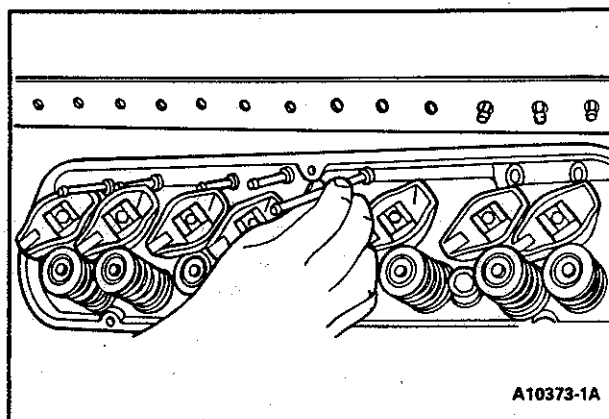

Figure 52 Removing Valve Push Rods
4. Loosen the rocker arm bolts or nuts so that the rocker arms can be rotated to the side. Remove the push rods in sequence (Figure 52) so that they may be installed in their original positions.